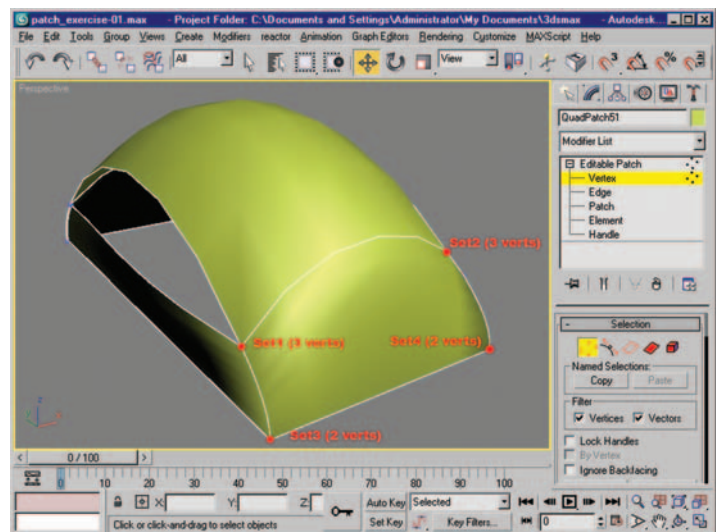

Figure 2.31 Vertex selections, with vertex count prior to welding.
12. Under Geometry/Weld set the value to 1 and click Selected. Did anything happen? In your Selection rollout you should now see one vertex listed instead of the previous three. If not, increase the value and click the Selected button again. Repeat these steps on the verts on the right side in the same area and do the bottom left and right sets of verts. Do not forget to convert each selection of verts to Corner for this series of steps. Figure 2.31 shows the vert locations and how many verts you should have in each area before welding.